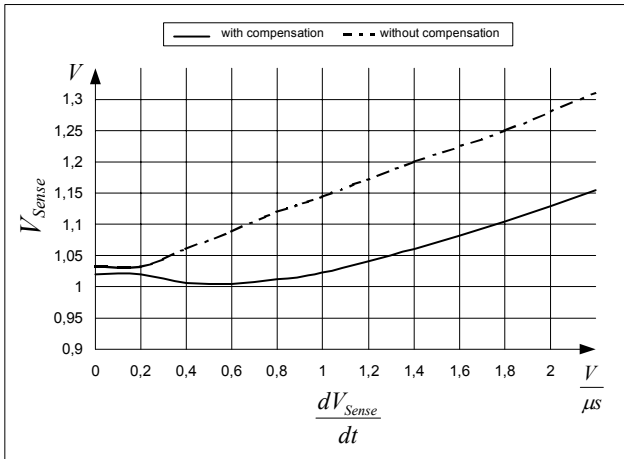

Figure 13 Overcurrent Shutdown
E.g. $I_{peak} = 0.5A$ with $R_{Sense} = 2$. Without Propagation Delay Compensation the current sense threshold is set to a static voltage level $V_{csth} = 1V$. A current ramp of $dI/dt = 0.4A/\mu s$, that means $dV_{Sense}/dt = 0.8V/\mu s$, and a propagation delay time of i.e. $t_{Propagation Delay} = 180ns$ leads then to an I_{peak} overshoot of 14.4%. By means of propagation delay compensation the overshoot is only about 2% (see Figure 13).